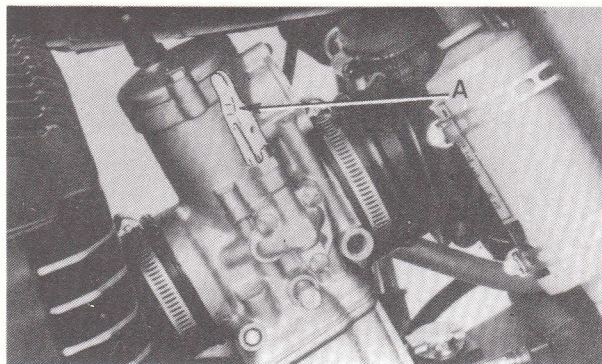

Fig. 3 - Fuel mixture enrichment lever - ON (open)
- When the engine is cold, raise the fuel mixture enrichment lever (A - fig. 3). Push down the kick-starter lever sharply without opening the throttle grip. Open the throttle valve when the engine starts. Lower the fuel mixture enrichment lever when the engine warms up.